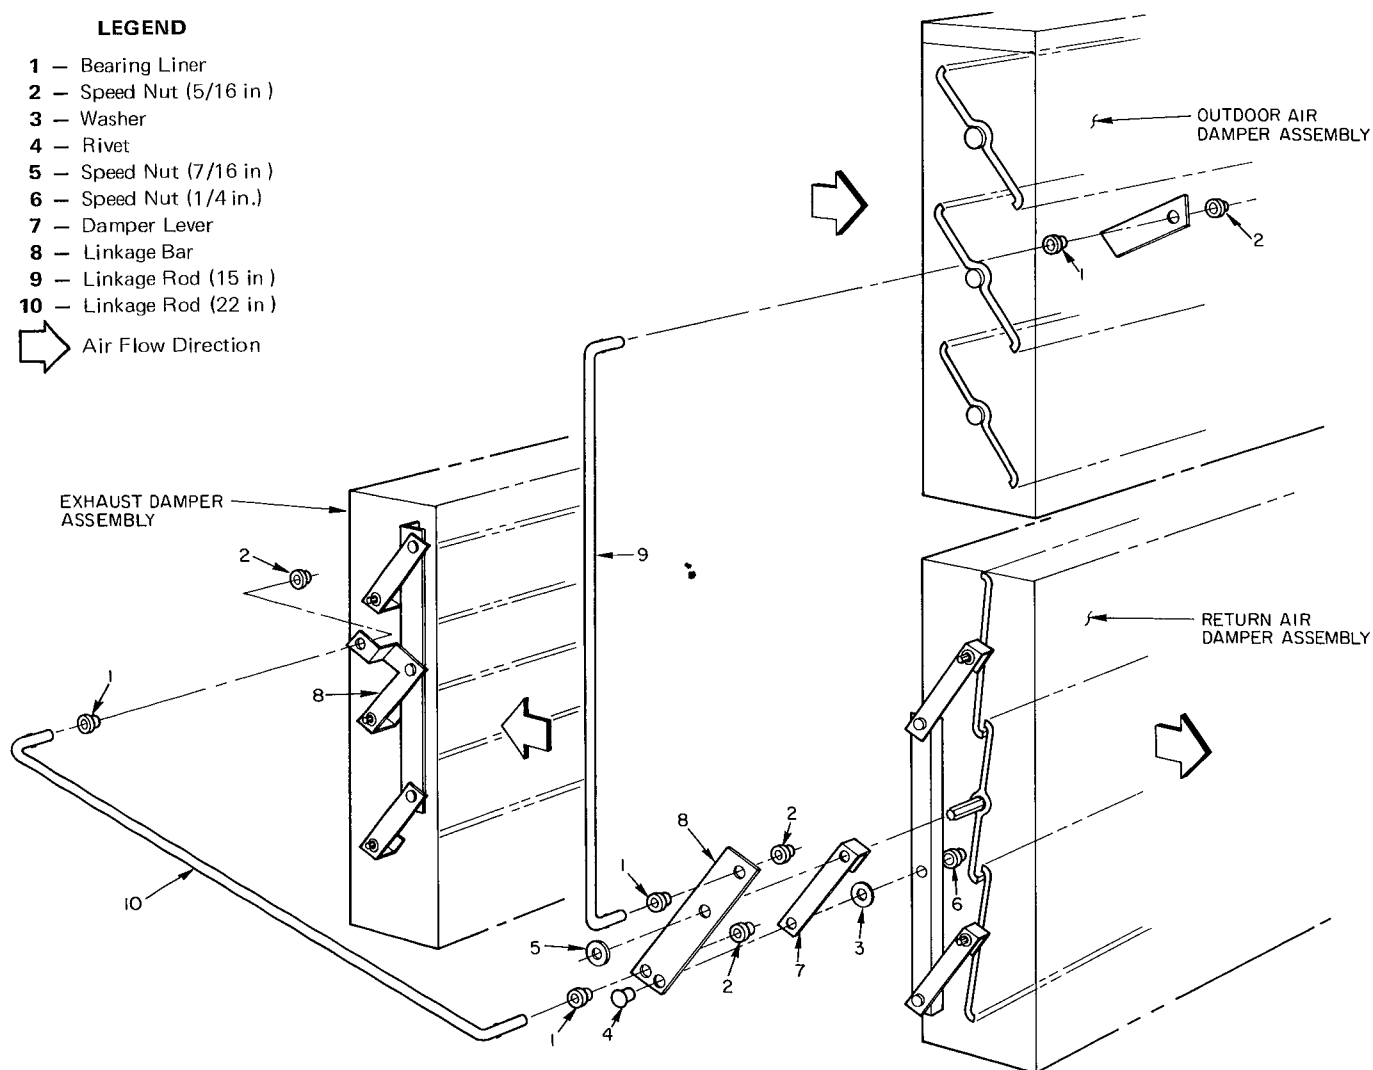

Fig. 33 — Damper Assemblies, Exploded View
→ **Economizer (Optional)** — See Fig. 33.
**Exhaust Damper (Optional)** — See Fig. 33. When unit is on economizer cycle (free cooling) and an exhaust damper is part of the unit, the exhaust relay is energized. The fan motor controls, the Motormaster® head pressure control and the fan cycling pressure switches are bypassed so that outdoor air fans operate at full speed as follows: